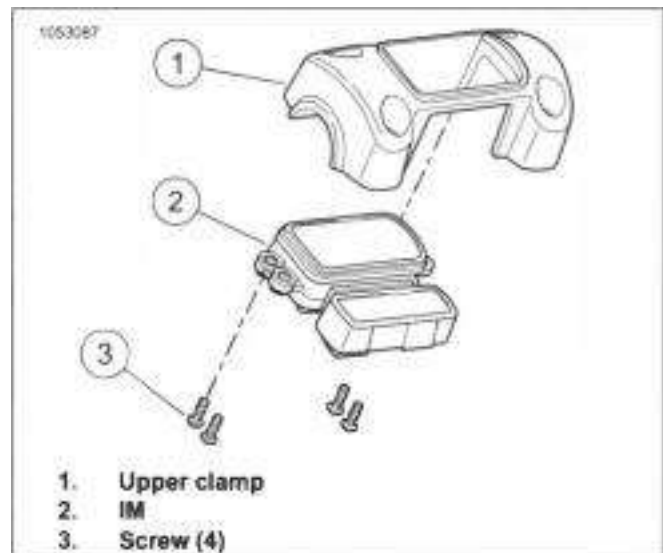

Figure 7-29. IM: Handlebar Mounted, Rectangular **Handlebar**
1. See Figure 7-29. Remove IM (2).
- a. Remove screws (3).
- c. Remove IM from upper clamp (1).
See Figure 7-29. Install IM (2).
- b. Align IM in upper clamp (1).
- c. Install screws (3). Tighten.